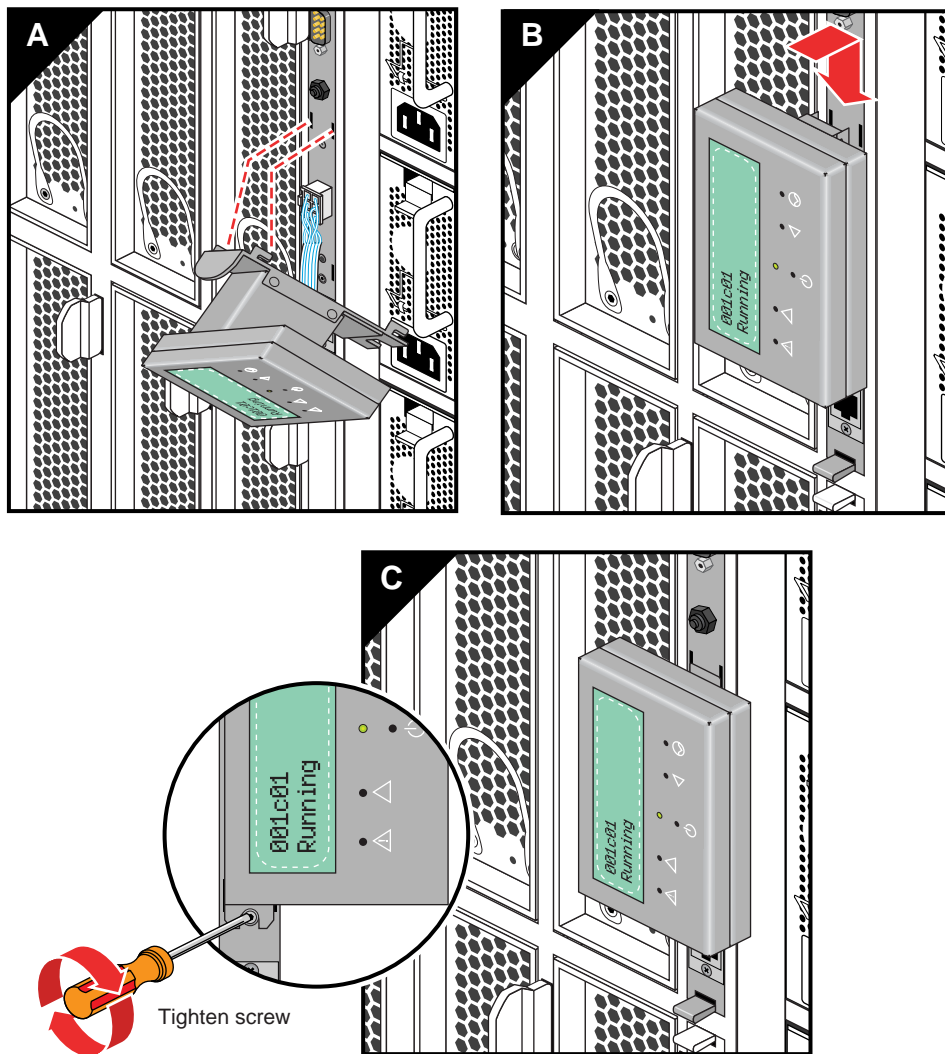

Figure 6-2 Replacing the L1 Controller Panel
1. Position the controller panel assembly slightly above the retention screw and carefully slid it back into place, see Figure 6-2 on page 78. Be careful not to snag the ribbon cable while replacing the panel.